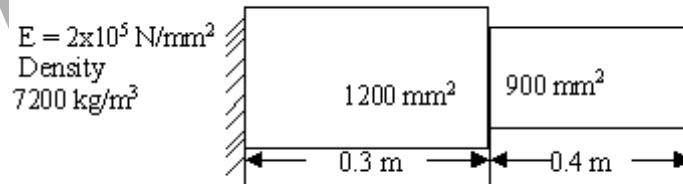

Figure 3
4. Consider the axial vibrations of a steel bar shown in the figure 3: